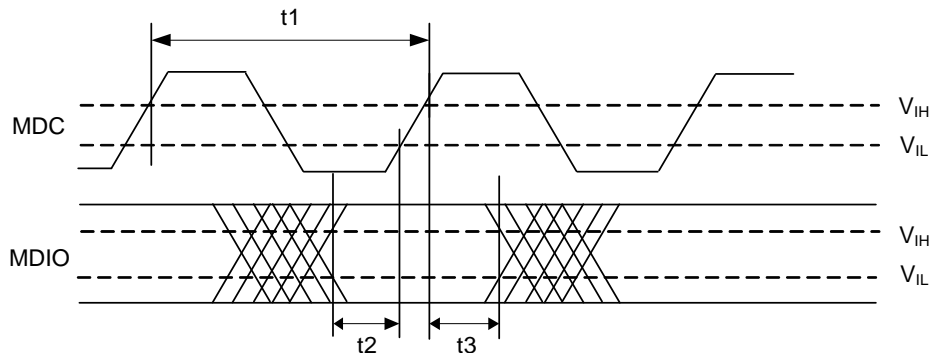

Figure 16. MDIO Sourced by Master (MAC)
- The timing characteristics t_1 , t_2 , and t_3 (Figure 16) of the Master (MAC) are provided by the Master when the Master sources the MDIO signal (Write command)